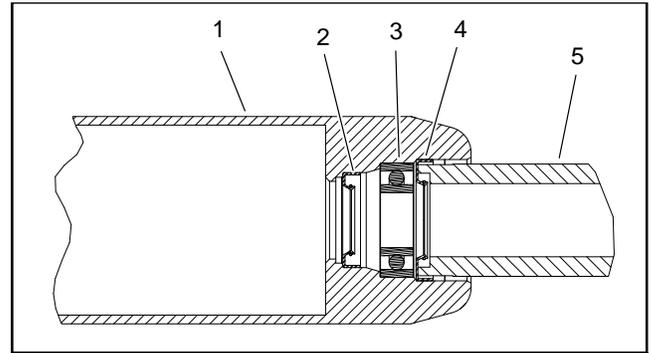

Figure 15
C. Install first outer seal into roller tube making sure that seal lip (and garter spring) faces end of tube. Use bearing/outer seal tool (see Special Tools in this chapter) and soft face hammer to lightly seat seal against roller shoulder (Fig. 15). Make sure that bearing still freely rotates after seal installation.